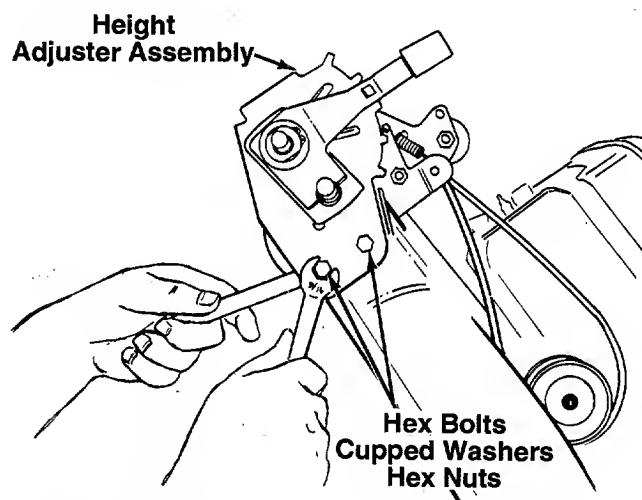

FIGURE 14.
9. Using two 9/16" wrenches, remove the two hex bolts, cupped washers and hex nuts which secure the height adjuster assembly to the deck. See figure 14. Remove height adjuster assembly from unit.